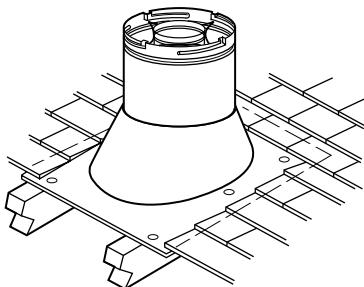

Figure 22
I. Install the roof flashing - Extend the vent sections through the roof structure. Install the roof flashing over the vent section and position such that the vent column rises vertically (use carpenter's level) (**Figure 22**). Nail along perimeter to secure flashing or adjust roofing to overlap the flashing edges at top and sides only and trim where necessary. Seal the top and both sides of the flashing with waterproof caulking.